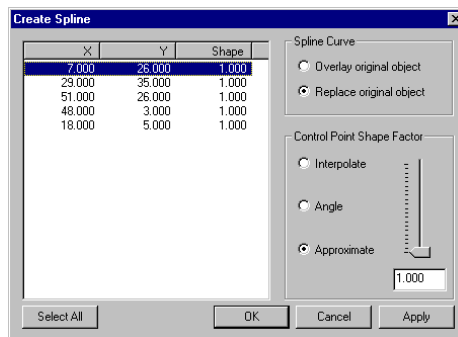

Figure 59: Modifying the vertex shape factors
- ☑ Modify the shape factors of all the vertices so that the curve approximates each vertex (Figure 59).